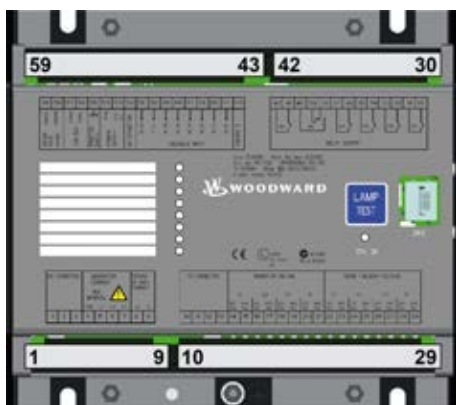

Fig. 18: Sheet metal housing
- Sheet metal housing - shown in Fig. 18